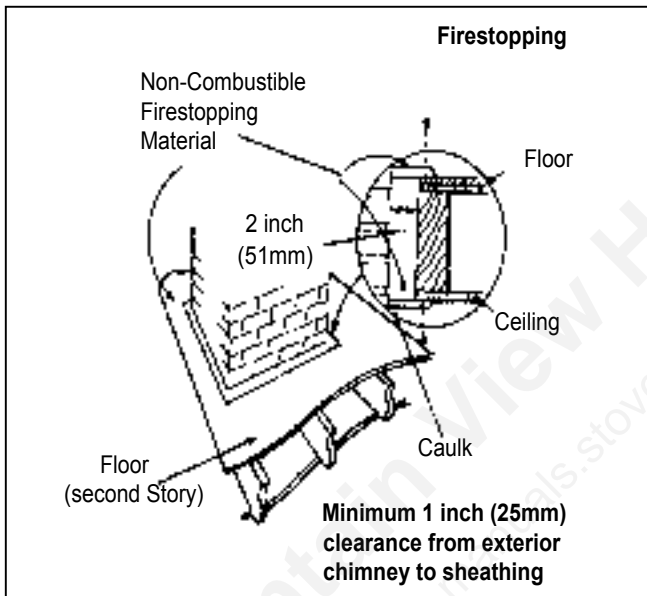

Figure 7.1
AVOID FIRE: To ensure that insulation or any other combustible material does not contact the chimney, a chimney inside the house must have at least 2 inches (51mm) of air space clearance around the chimney. A chimney outside the house must have at least 1 inch (25mm) clearance to the combustible structure. Non-combustible fire stops must be installed at the spaces where the chimney passes through floors and/or ceilings. **Refer to Figures 7.1 & 7.2 on page 7. Canadian installations require a full reline of the chimney.**
- A chimney inside the house must have at least 2 inches (51mm) of clearance to the combustible structure. A chimney outside the house must have at least 1 inch (25mm) clearance to the combustible structure. Non-combustible fire stops must be installed at the spaces where the chimney passes through floors and/or ceiling (See Figures 7.1 and 7.2 on page 7).